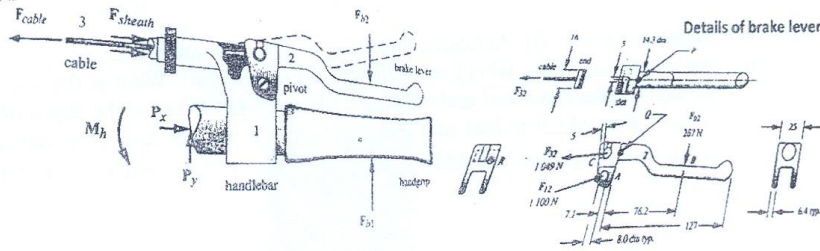

Fig.Q1 (b)
b. Determine the factors of safety at critical points in the brake lever shown in Fig. Q1 (b). The material of the brake lever is die-cast aluminium alloy ASTM G8A with  $S_{ut} = 310$  MPa and  $S_y = 186$  MPa. The elongation to fracture is 8%, making it a marginally ductile material. The average human's hand can develop a grip force of about 267 N in the lever position shown. (17 Marks)